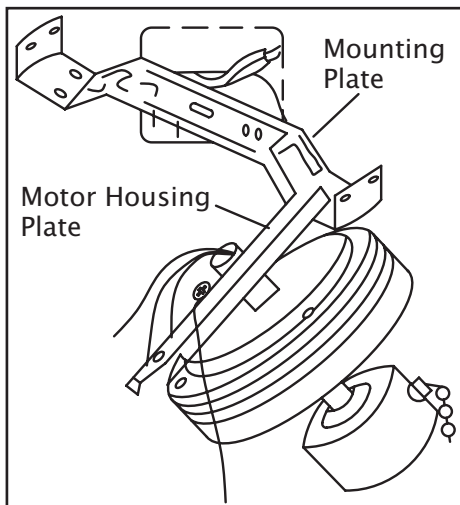

Figure 5
1. Attach the mounting plate to the outlet box using the two screws and washers provided with the outlet box (Figure 5). For best performance, be sure the mounting plate is level and secured firmly against the ceiling.